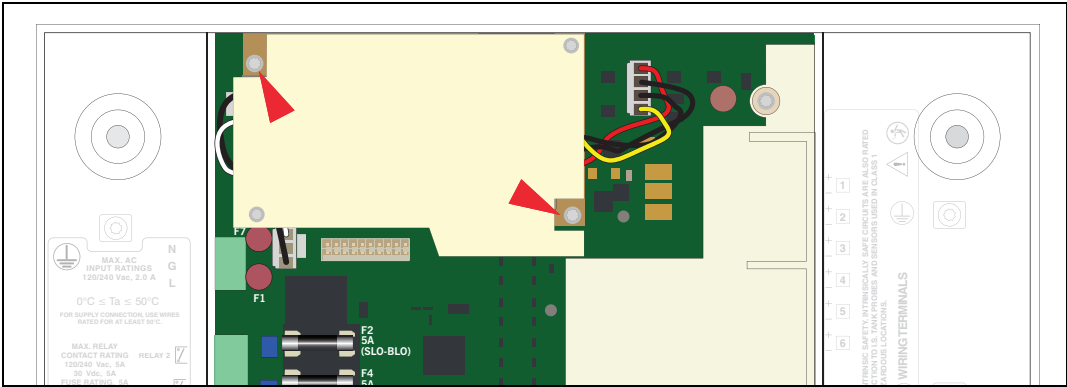

Figure 10. Remove Two Corner T10 Screws From Power Supply Board
7. Remove the two T10 #4 x 0.625 screws from the opposite corners of the power supply board and set them aside (see Figure 10).